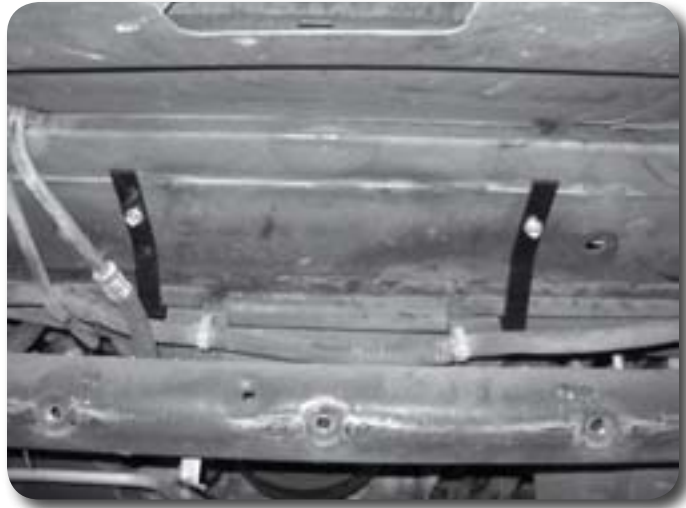

Figure 18
35. With the holes drilled, reposition the lower shroud brackets and fasten with the provided $\frac{1}{4}$ " x $\frac{3}{4}$ " self-tapping bolts. Tighten bolts to 10 ft-lbs. **Figure 18**